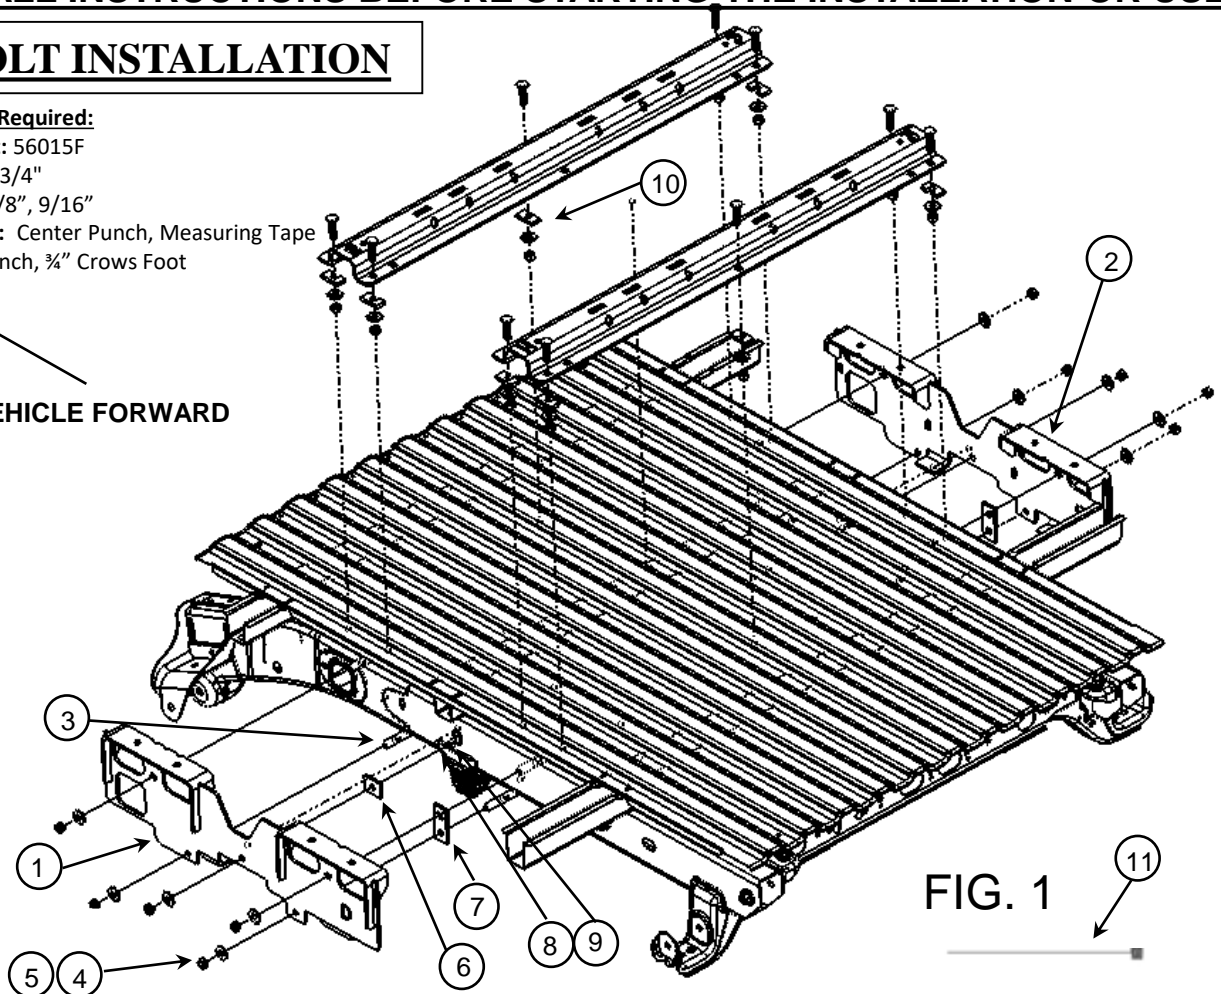

FIG. 1
6. Fasten the frame brackets to the frame using the supplied U-bolts (Item3) and conical washer (Item5) with nut (Item 4) be sure to place the correct 1/4"x 3.5"x1.5" block (Item 7) behind the bracket as a spacer with the U-Bolt passing through the bottom hole as shown in figure 1. Tighten snug to keep the bracket from moving.